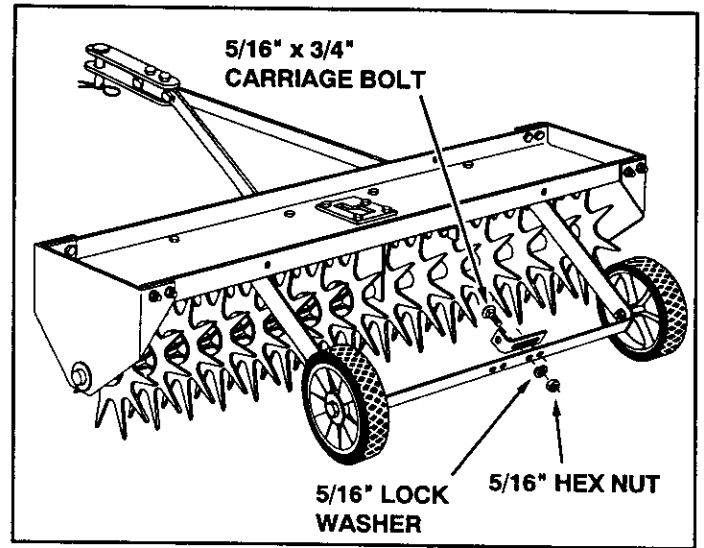

FIGURE 8 REAR VIEW
- Assemble a hitch arm mount bracket to the axle bracket using two 5/16" x 3/4" carriage bolts, 5/16" lock washers and 5/16" hex nuts. **Do not tighten yet.** See figure 8.